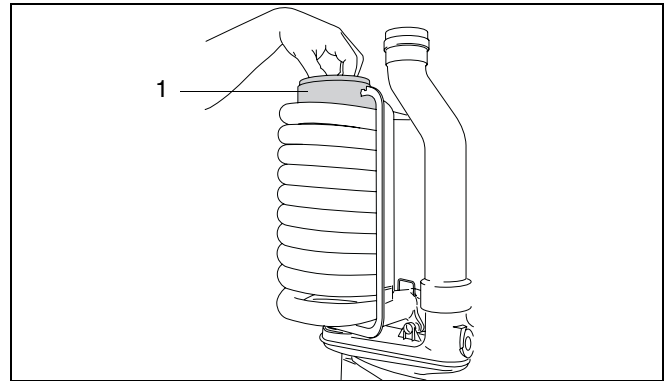

fig. 62 Remove restrictor baffle
- Remove the restrictor baffle from the heat exchanger (fig. 62, item 1).